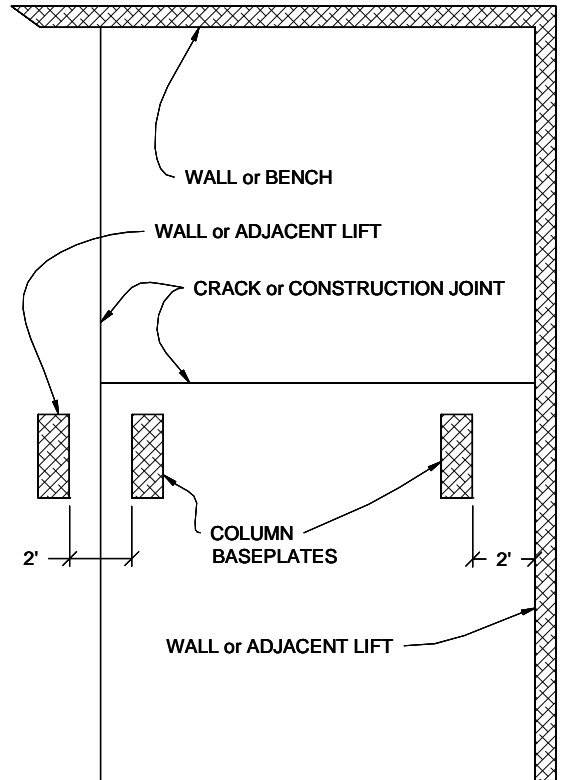

Fig 1
2. Layout the service bay according to the architect's plans or owner's instructions (**See Figures 1 & 1A**). Be certain that the proper conditions exist per the section entitled "Before You Install".